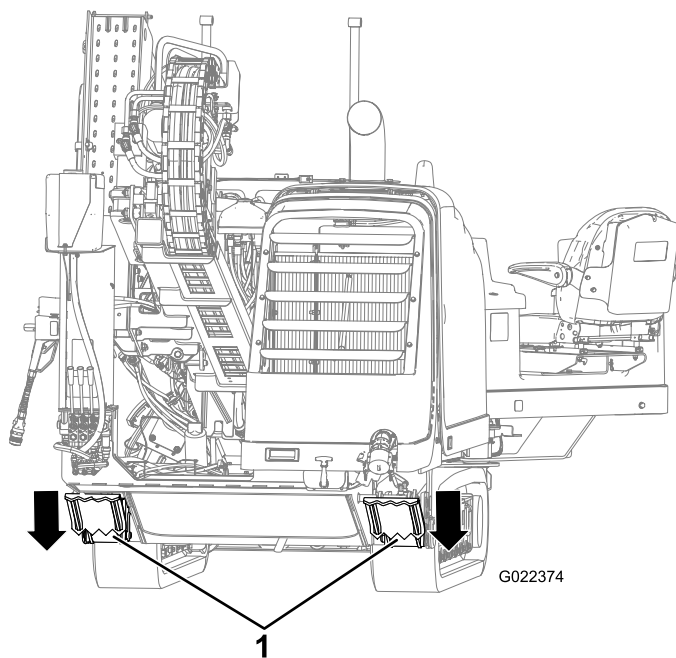

Figure 81
10. Lower the rear stabilizers until they contact the ground firmly, or until the desired entry angle is achieved (Figure 81).